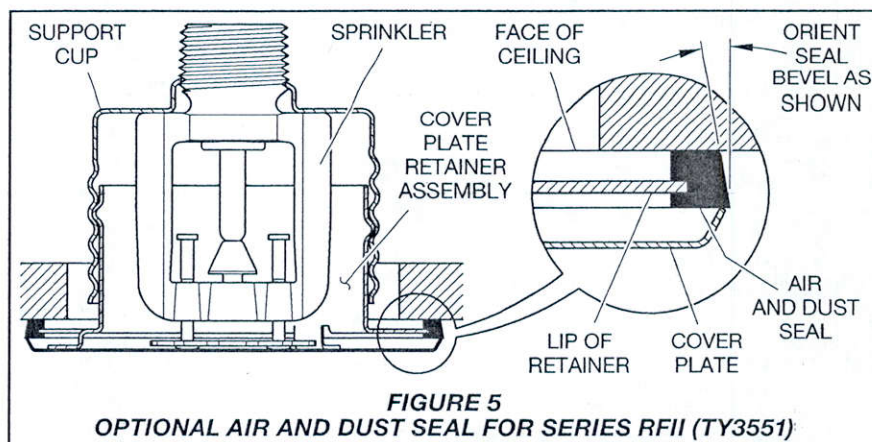

FIGURE 5
As an option, the Series RFI Standard Response (5-mm bulb) "Royal Flush II" Concealed Pendent Sprinklers can be fitted with a silicone Air and Dust Seal. (Refer to Figure 5.) The Air and Dust Seal is intended for sensitive areas where it is desirable to prevent air and dust from the area above the ceiling to pass through the cover plate.
Step 7. When installing an Air and Dust Seal, refer to Figure 5; otherwise, proceed to Step 8. To attach the Air and Dust Seal, verify the angle of the outside edge of the seal is oriented according to Figure 5. Start the edge of the Retainer in the grooved slot of the Air and Dust Seal and continue around the retainer until the entire Air and Dust Seal is engaged.
Step 8. Screw on the Cover Plate/Retainer Assembly until the Retainer (shown in Figure 2) or the Air and Dust Seal (shown in Figure 5) contacts the ceiling. Do not continue to screw on the Cover Plate/Retainer Assembly so that it lifts a ceiling panel out of its normal position. If you cannot engage the Cover Plate/Retainer Assembly with the Support Cup or you cannot engage the Cover Plate/Retainer Assembly sufficiently to contact the ceiling, you must reposition the Sprinkler Fitting.
Step 3. Tighten the sprinkler into the sprinkler fitting using only the W-Type 6 Sprinkler Wrench (Ref. Figure 5). With reference to Figure 1 or 2, the W-Type 6 Sprinkler Wrench is to be applied to the wrench flats.